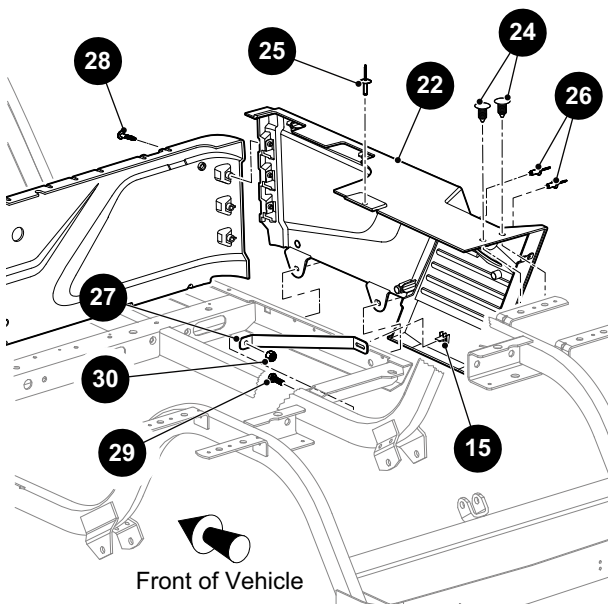

Figure 9 Side Panel
rear fender (Figure 9). Remove the hardware (28) from five clips that secure the side panel to the front panel and rear fender. Retain hardware for later installation.